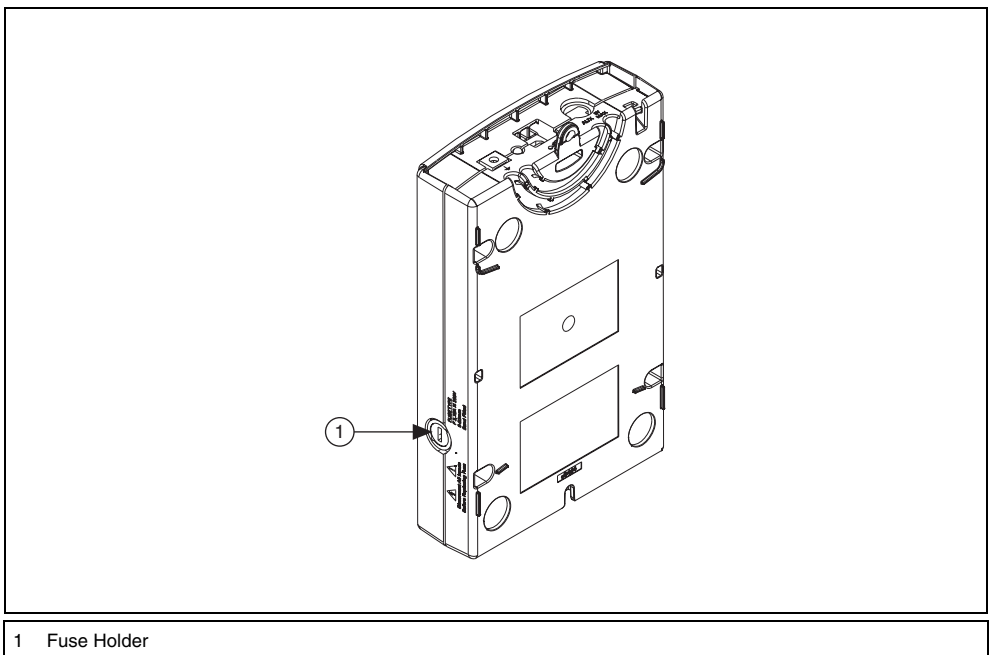

Figure 27. Locating the Fuse on the NI USB-4065
- **(NI USB-4065)** View the device at the angle shown in Figure 27.